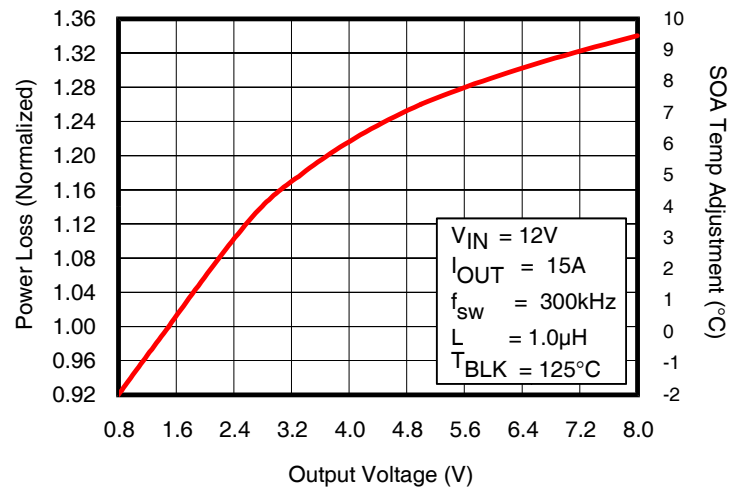

Fig. 5: Normalized Power Loss vs. V_{OUT}
- (Fig. 5) Normalized power loss for output voltage ≈ 0.97
(Fig. 5) Normalized SOA Temperature for output voltage $\approx -0.75^{\circ}\text{C}$